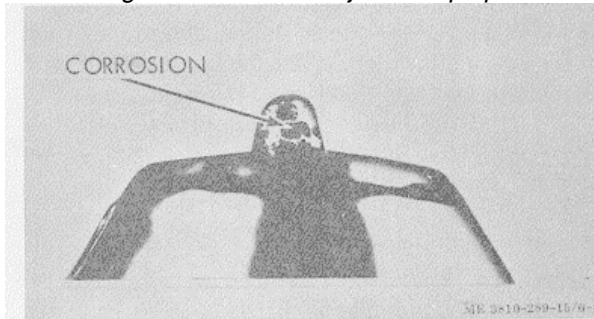

Figure 3-78. Corroded injector cup tip.
2. Corrosion damage and effect of excessive heat: This condition usually results from high acid or sulphur content in fuel or overload operating conditions, figure 3-78.